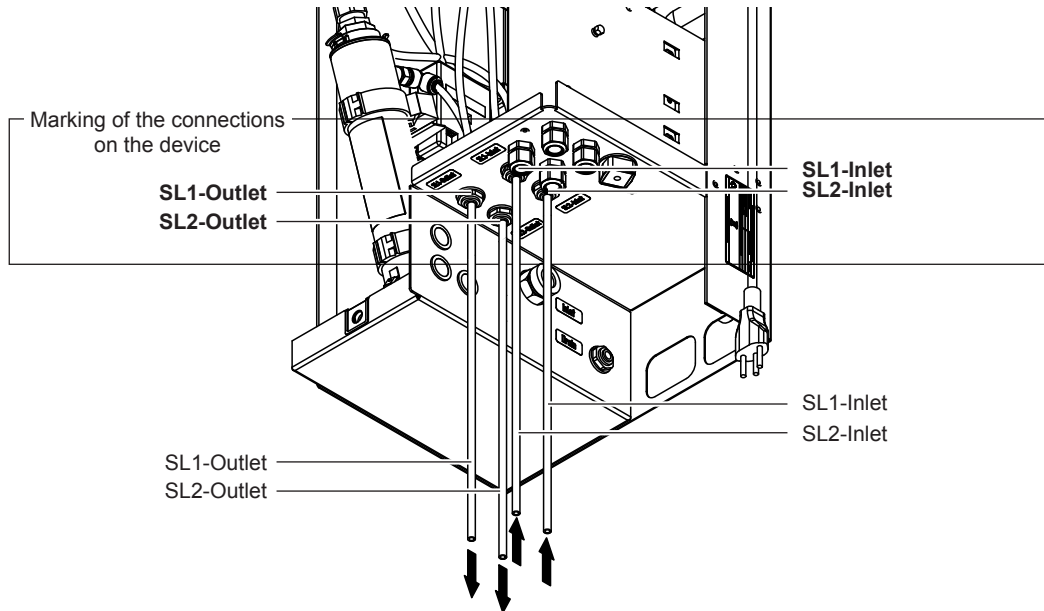

Fig. 16: Connection of the spray loop hoses
1. Connect the spray loop hoses from spray loop 1 and, if present, spray loop 2 to the central unit according to Fig. 16.
Important: If the spray loop hoses are not marked or are marked insufficiently, label them according to Fig. 16.
6. Reconnect the inlet hoses to the central unit (see Fig. 16).